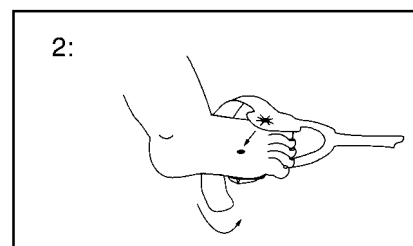

Fig. 28 Aligning the sensor and receiver
- 2 Align the transmitter window along the top of the foot directly opposite the receiver. Wrap the adhesive strip around the foot to secure the transmitter and receiver (Fig. 28). Check and if necessary correct the positions.